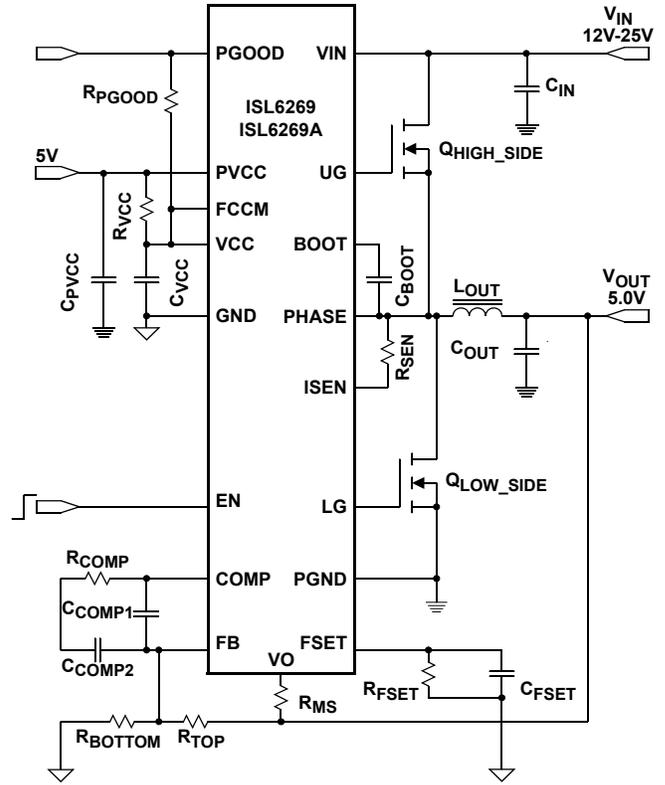

FIGURE 5. SCHEMATIC OF 5V V_{OUT} APPLICATION
- A 499Ω resistor R_{MS} is placed in series with the VO pin to protect the internal ESD diode that is connected to V_{CC}. The ESD diode will conduct current into the V_{CC} node in the unlikely event where the tolerance stack up of V_{CC}, V_{FB}, I_{FB}, V_{OVR}, R_{TOP}, and R_{BOTTOM} results in a voltage sufficient to forward bias the device. Refer to Figure 5.